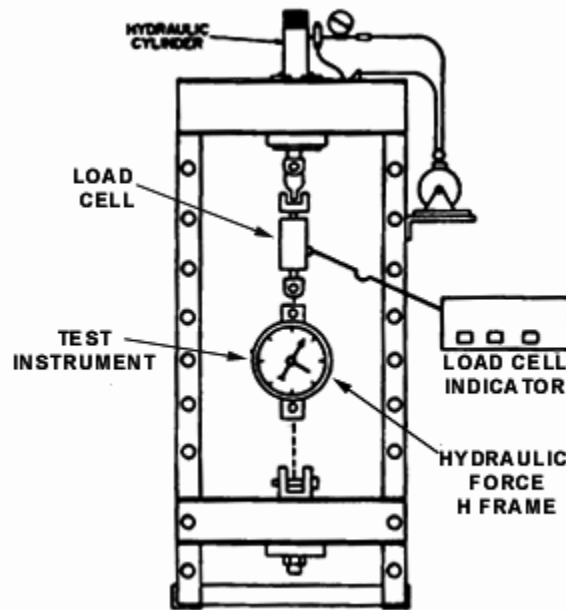

Figure 1. Dynamometer accuracy - equipment setup.
- e. Connect equipment as shown in figure 1.
- h. Exercise load cell and TI as described in (1) through (5) below: